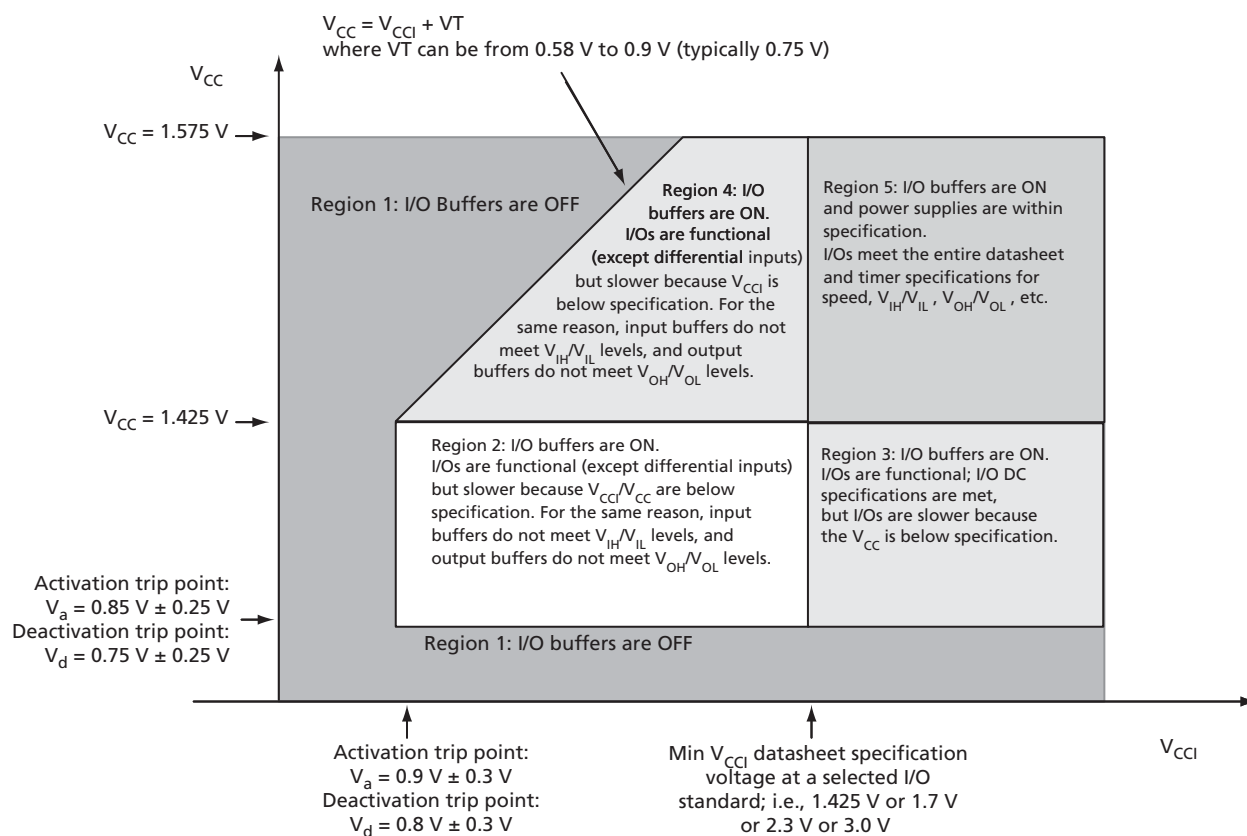
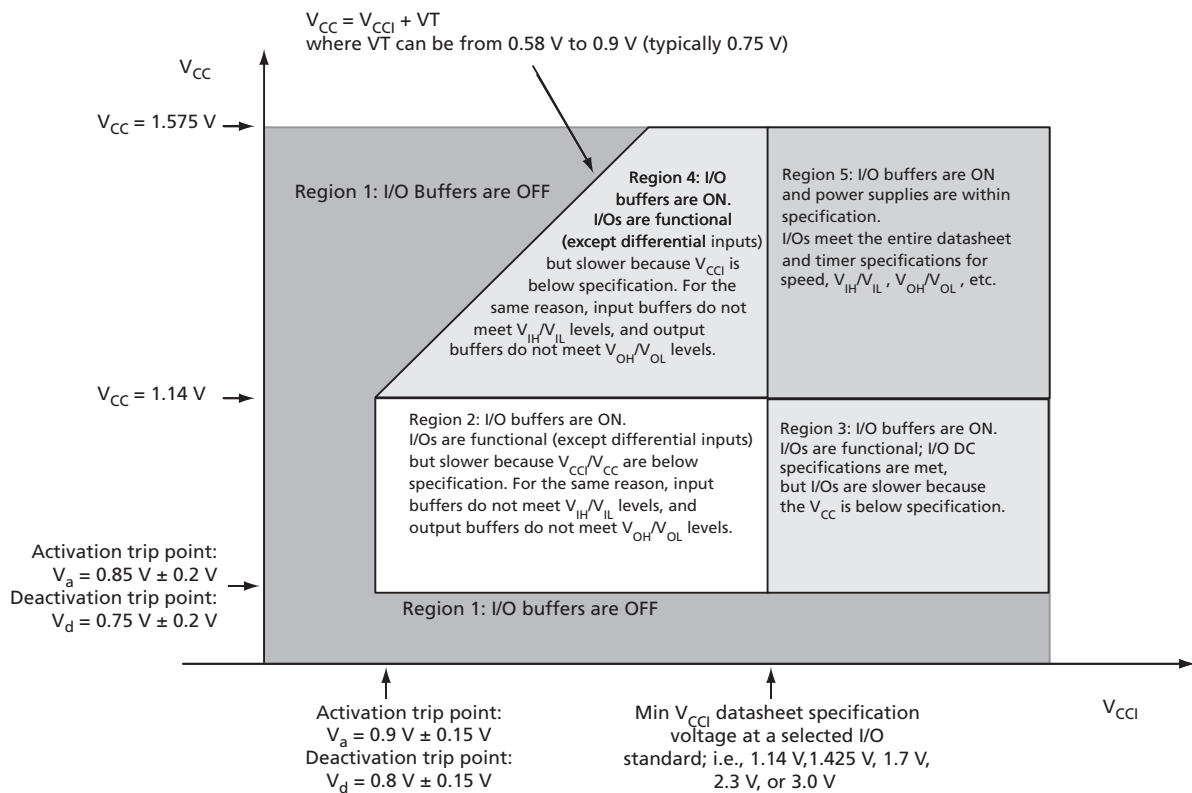

Figure 2-1 • V5 Devices – I/O State as a Function of V_{CCI} and V_{CC} Voltage Levels
Figure 2-2 • V2 Devices – I/O State as a Function of V_{CCI} and V_{CC} Voltage Levels
Sophisticated power-up management circuitry is designed into every IGLOO device. These circuits ensure easy transition from the powered-off state to the powered-up state of the device. The many different supplies can power up in any sequence with minimized current spikes or surges. In addition, the I/O will be in a known state through the power-up sequence. The basic principle is shown in Figure 2-1 on page 2-4 and Figure 2-2 on page 2-5.
1. V_{CC} and V_{CCI} are above the minimum specified trip points (Figure 2-1 on page 2-4 and Figure 2-2 on page 2-5).
Actel recommends using monotonic power supplies or voltage regulators to ensure proper power-up behavior. Power ramp-up should be monotonic at least until V_{CC} and V_{CCPLX} exceed brownout activation levels (see Figure 2-1 and Figure 2-2 on page 2-5 for more details).